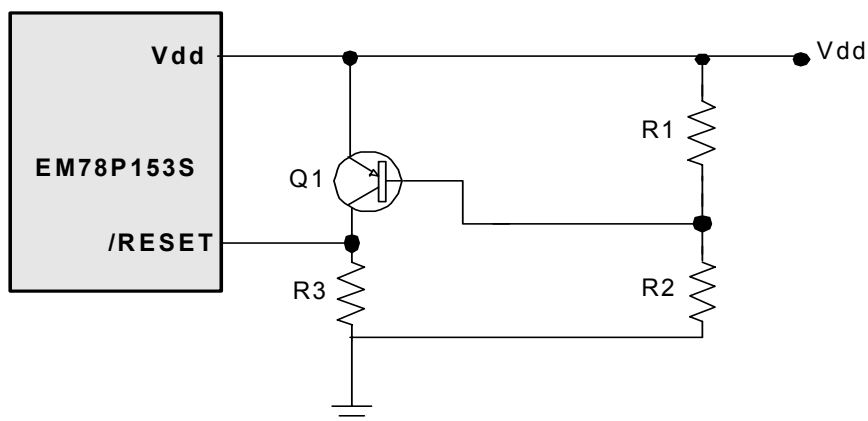

Fig.17 Circuit 2 for the residue voltage protection
The circuit shown in Fig 17 implements an external RC to produce the reset pulse. The pulse width (time constant) should be kept long enough for Vdd to reach minimum operation voltage. This circuit is used when the power supply has slow rise time. Because the current leakage from the /RESET pin is about $\pm 5\mu$ A, it is recommended that R should not be great than 40 K. In this way, the voltage in pin /RESET will be held below 0.2V. The diode (D) acts as a short circuit at the moment of power down. The capacitor C, will discharged rapidly and fully. RI, the current-limited resistor, will prevent high current discharge or ESD (electrostatic discharge) from flowing to pin /RESET.